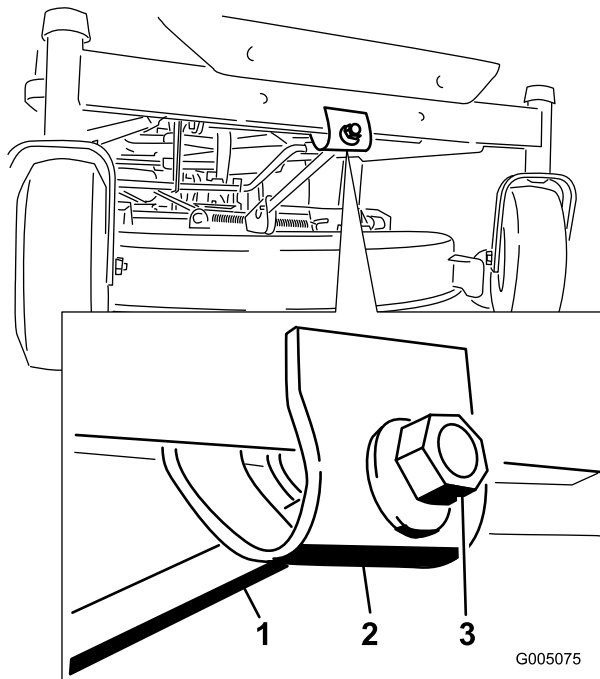

Figure 44
7. To adjust the front-to-rear blade slope, rotate the adjustment nut in the front of the mower (Figure 44).